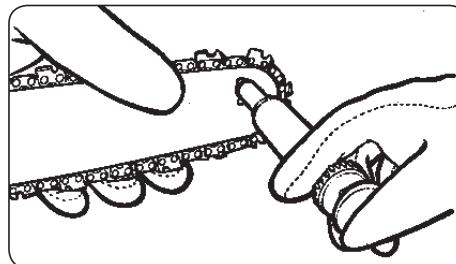

Fig. 20
3. Using the Lube Gun (not included in the kit): Insert needle nose into the lubrication hole and inject grease until it appears at outside edge of sprocket tip (*Fig. 20*).